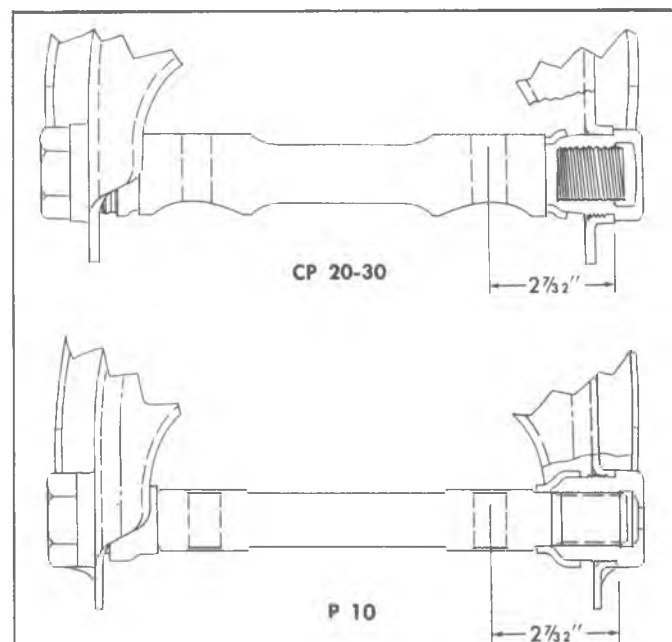

Fig. 30—Positioning Upper Control Arm Shaft (Steel Bushings)
3. Start new bushings on shaft and into control arm. Adjust shaft until it is centered in control arm, then turn bushings in and torque to specifications. Figure 30 shows correct final positioning of shaft. Check shaft for free rotation and install grease fittings.
3. Torque the shaft end nuts. See Fig. 30 for proper spacing.